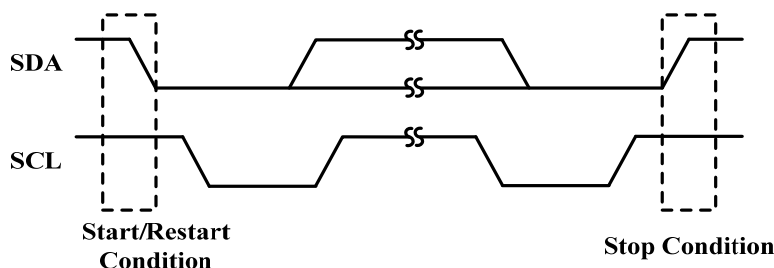

Figure 3 START and STOP Conditions
SDA operates as both an input and an open-drain output. A pull up resistor, typically 4.7k Ω , is required on SDA. SCL operates only as an input. A pull up resistor, typically 4.7k Ω , is required on SCL if there are multiple masters on the 2-wire interface, or if the master in a single-master system has an open-drain SCL output. Each transmission consists of a START condition sent by a master, followed by the SN7325's 7-bit slave addresses plus R/W bits, 1 or more data bytes, and finally a STOP condition (see Figure 3).
Both SCL and SDA remain high when the interface is not busy. A master signals the beginning of a transmission with a START (S) condition by transitioning SDA from high to low while SCL is high. When the master has finished communicating with the slave, the master issues a STOP (P) condition by transitioning SDA from low to high while SCL is high. The bus is then free for another transmission (see Figure 3)